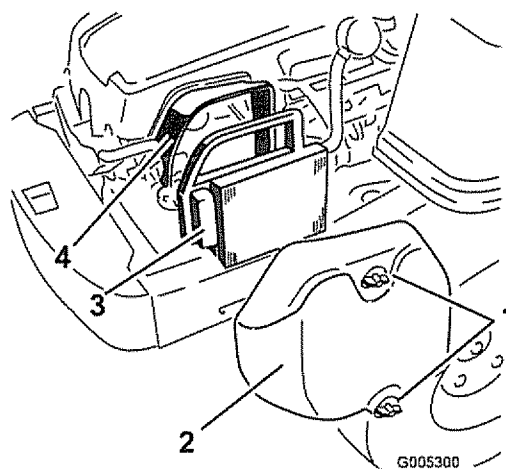

Figure 25
1. Remove the air cleaner cover (Figure 25).
2. Remove the air cleaner element with the integral rubber seal (Figure 25).
5. Install the air cleaner element with the pleated side "out" and seat the rubber seal onto the edges of the air cleaner base (Figure 25).
6. Reinstall the air cleaner cover and secure with the two knobs (Figure 25).